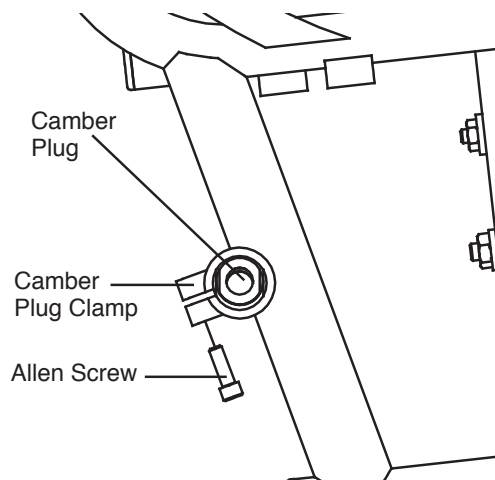

Figure 58
2. Loosen, but do not remove, the two Allen Screws that secure each camber plug to each camber plug clamp. See Figure 58. If you are adjusting the rear wheel spacing, only loosen the screws enough to permit the camber plug to slide in and out of the camber mount clamp and skip to Step 5 below.